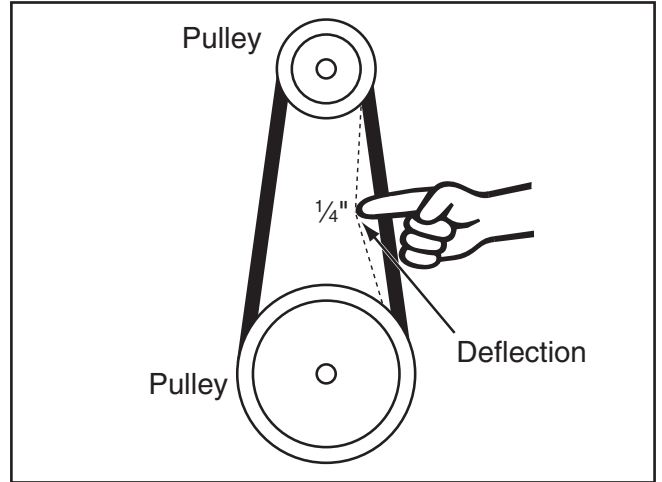

Figure 52. Checking belt deflection.
- Adjust motor position until there is approximately $\frac{1}{4}$ " belt deflection when moderate pressure is applied between pulleys (see **Figure 52**).